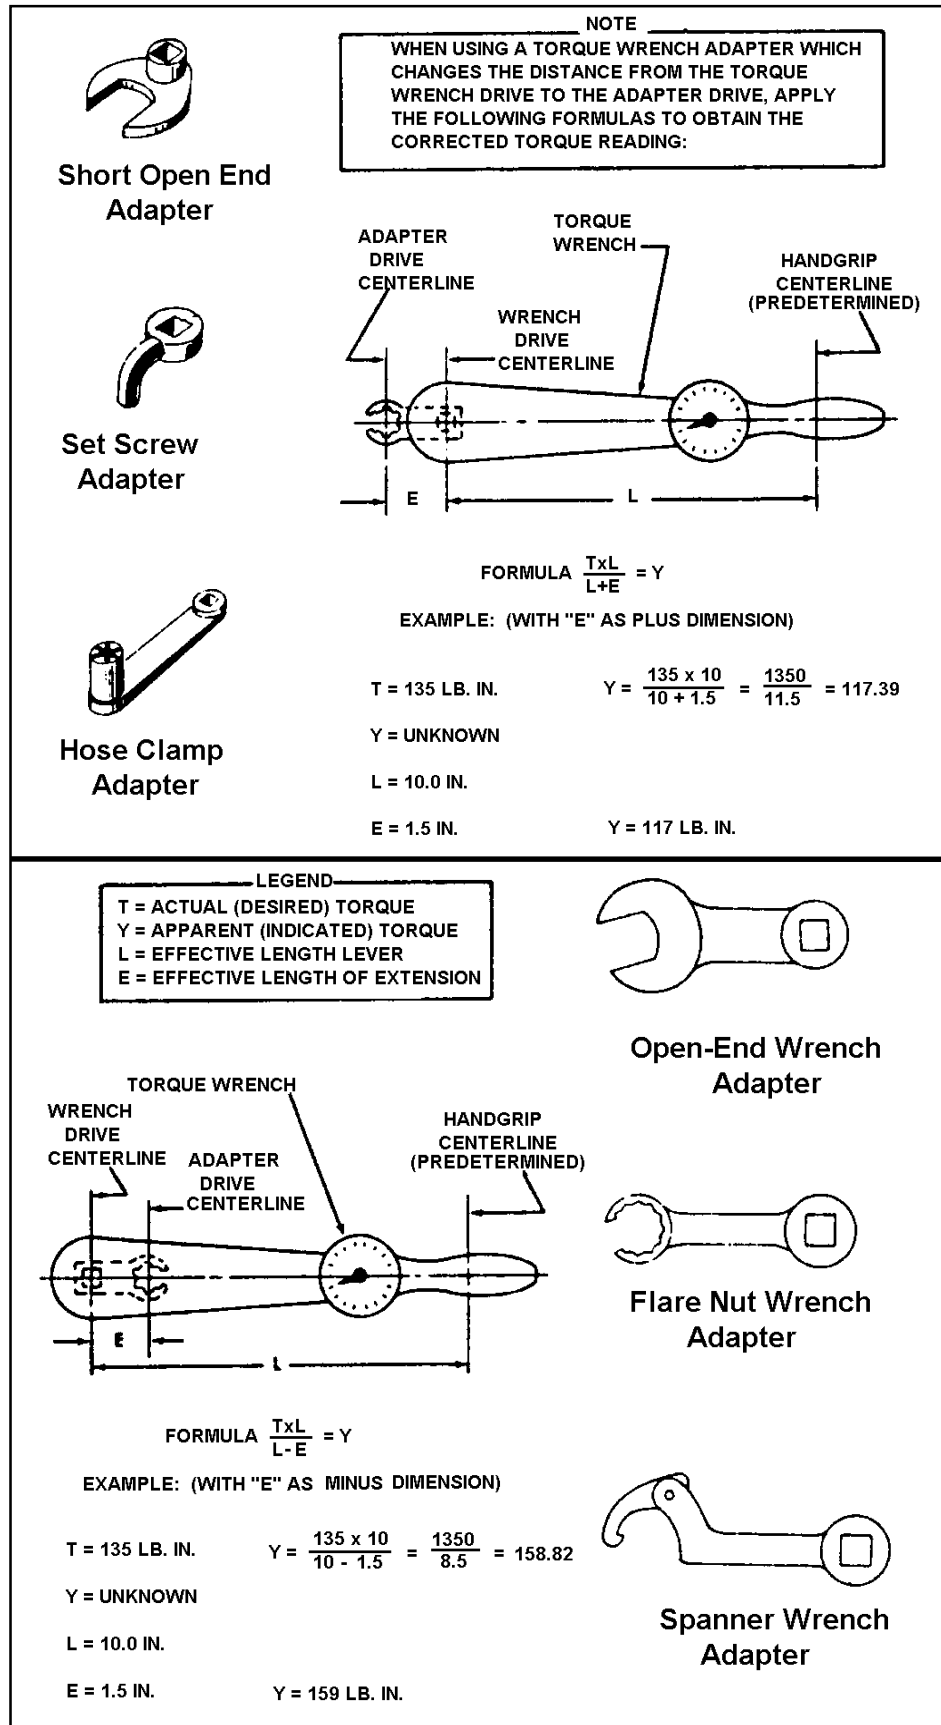

FIGURE 7-2. Torque wrench with various adapters.
**h. If special adapters are used** which will change the effective length of the torque wrench, the final torque indication or wrench setting must be adjusted accordingly. Determine the torque wrench indication or setting with adapter installed as shown in figure 7-2.